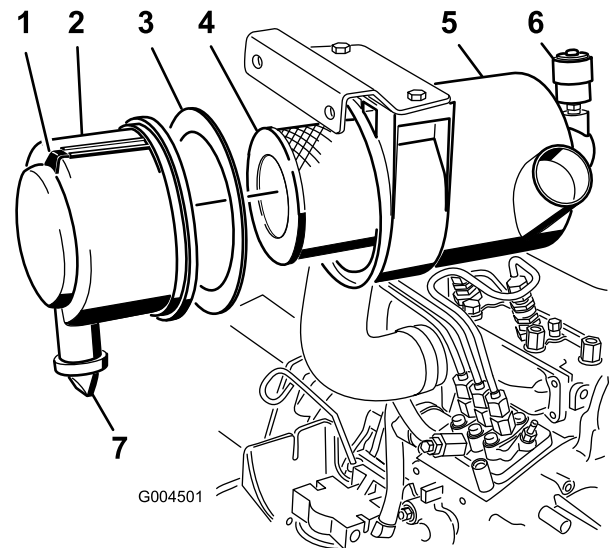

Figure 59
3. Service the air-cleaner filter when the air-cleaner indicator shows red and service it more frequently in extremely dusty or dirty conditions (Figure 59).